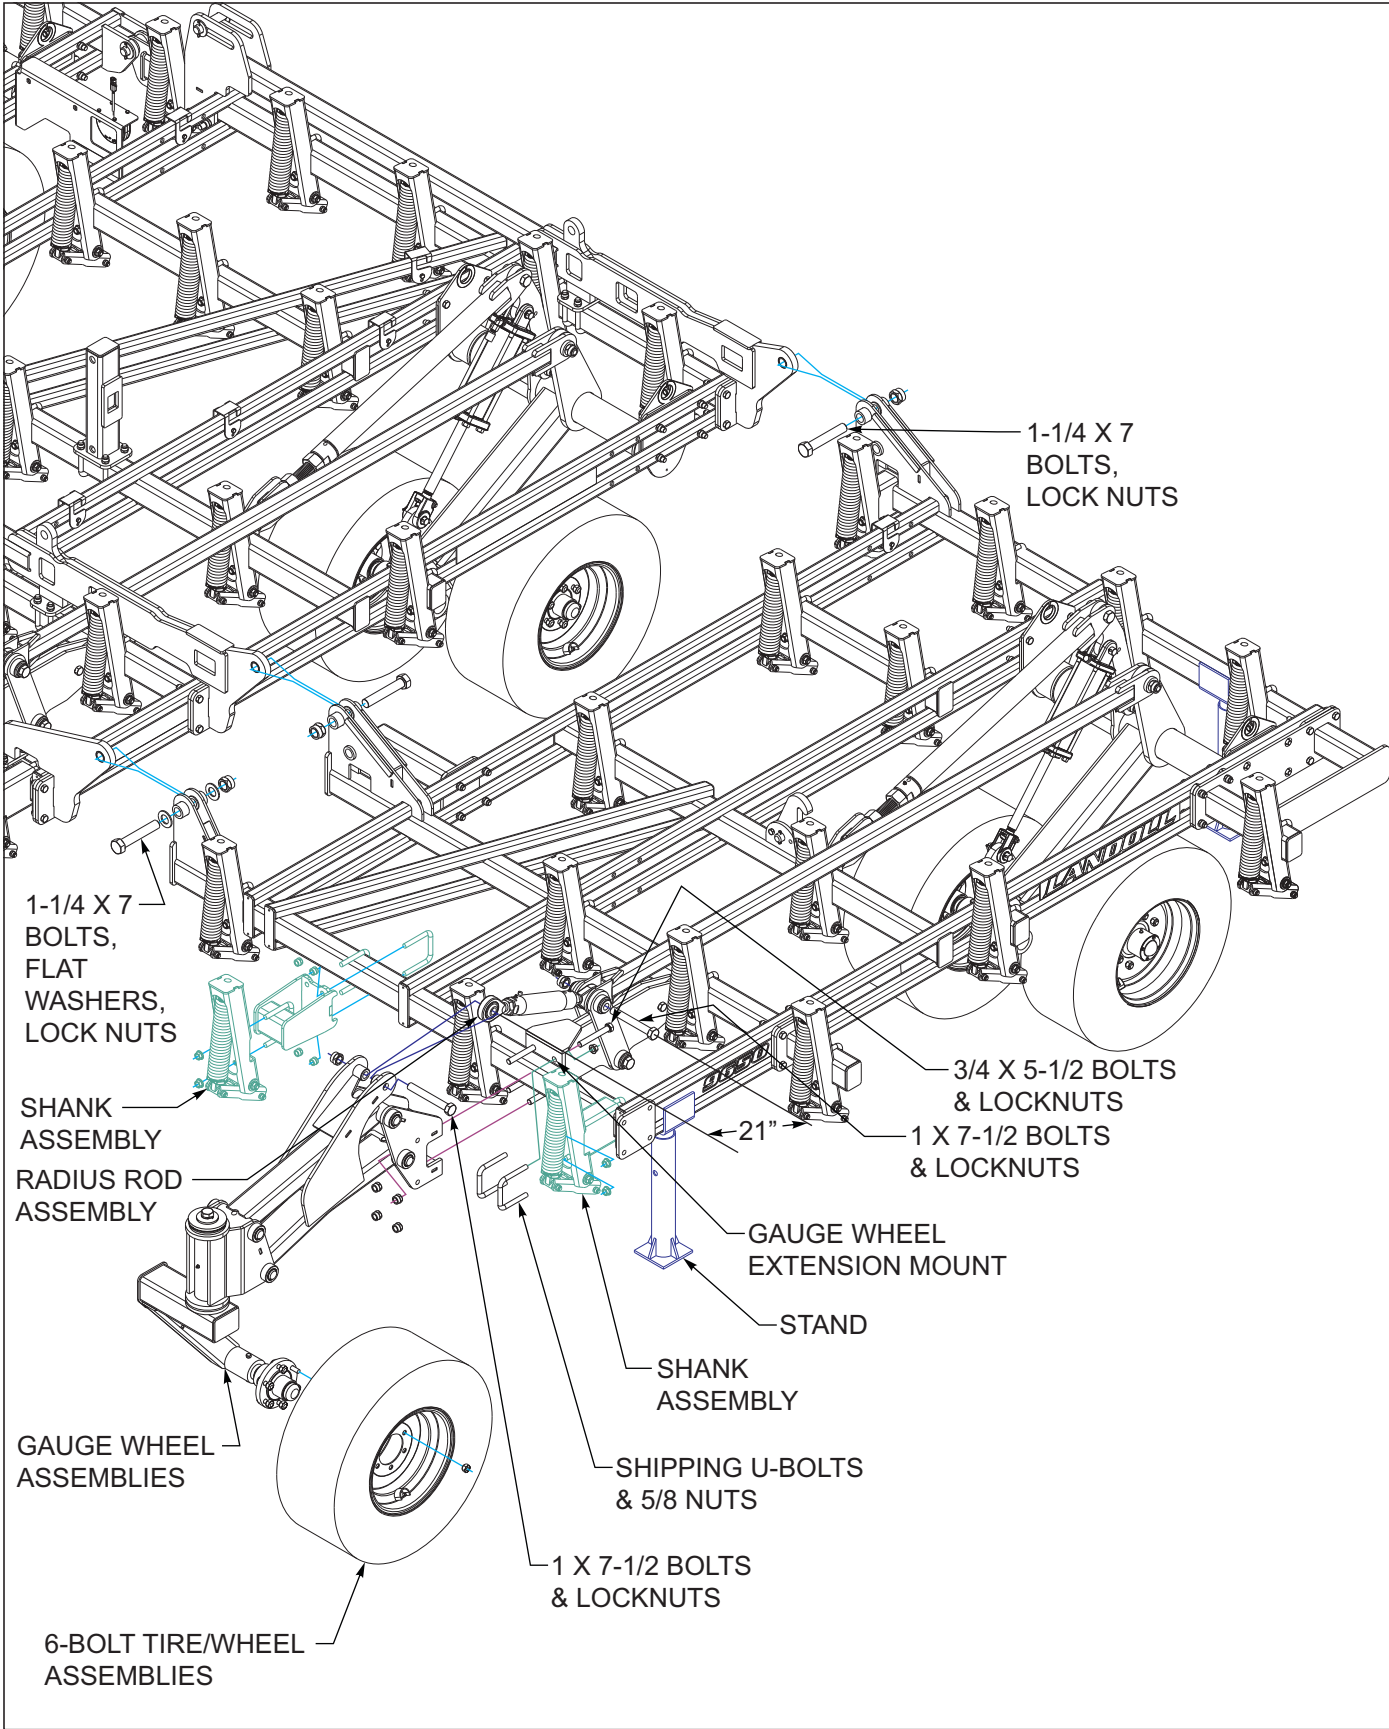

Figure 3-6: Outer Wing Assembly
1. Install outer wing frames to inner wing frames using 1-1/4-7 x 7 hex head cap screws, and hex lock nuts **See Figure 3-6** **Note the direction of bolts as shown in Figure 3-6.** Use flat washers on the front mount but not the middle or rear hinge.
1. Remove the shipping u-bolts and nuts from front of the gauge wheel extension mounts **See Figure 3-6.**